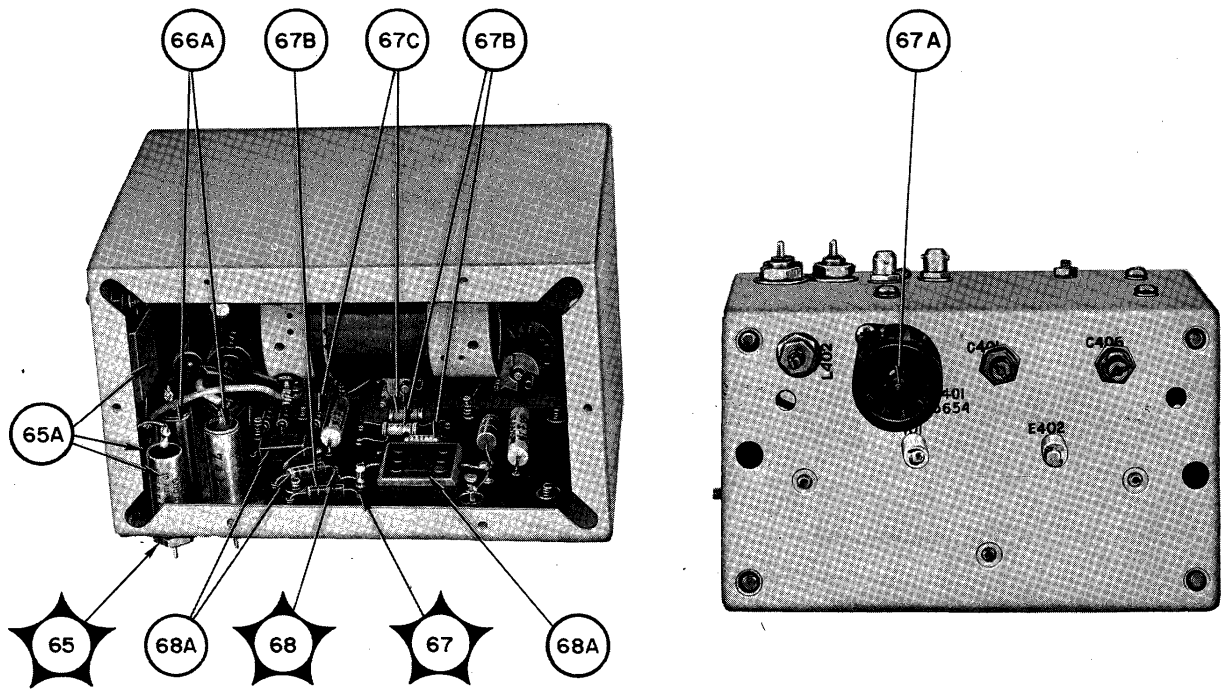

Figure 5-43. Interpolation Oscillator, Location of Test Points
- (1) Seating of tube V401 in its socket
- (2) Cable connections at J401 and J402
- (3) All soldered connections at chassis feed-through terminals.
f. INTERPOLATION OSCILLATOR TROUBLE-SHOOTING CHART.—Measure the dc supply voltages before checking for normal oscillator operation. The interpolation oscillator generates signal frequencies of 580 kc to 680 kc regardless of the BAND switch position; therefore, the setting of the TUNING  $\Delta F = 100$  KC control is not important. Figure 5-43 shows the location of subassembly test points. Voltage and resistance measurements for V401 socket pins follow: